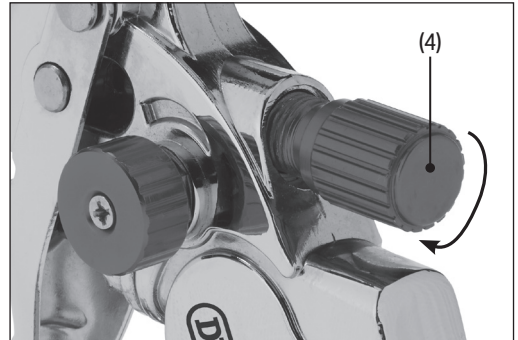

Fig. 7
2. Rotate the fluid control dial (4) clockwise as far as possible to close the fluid valve (Fig. 7).